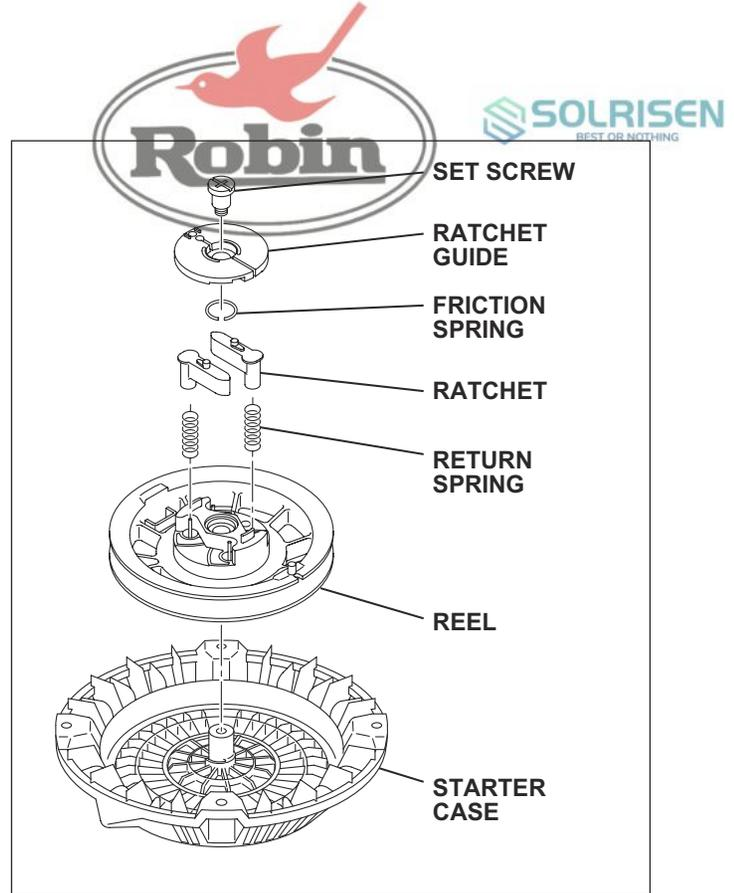

Fig. 14-2
- (2) Remove the components. (Fig. 14-2)
- (3) Remove the reel. (Fig. 14-2)
- 3 If the spring is about to pop out of the reel, repeat steps (3)-1 and (3)-2.